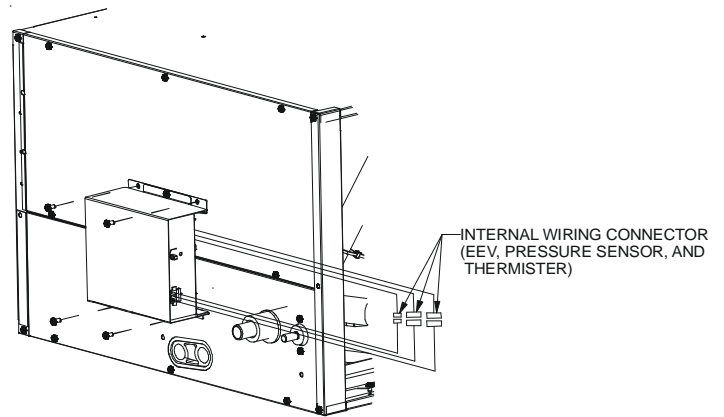

Figure 7
- Disconnect the control panel wiring from component wiring using the EEV, pressure sensor and thermistor connectors located on the outside of the control panel. See Figure 7.